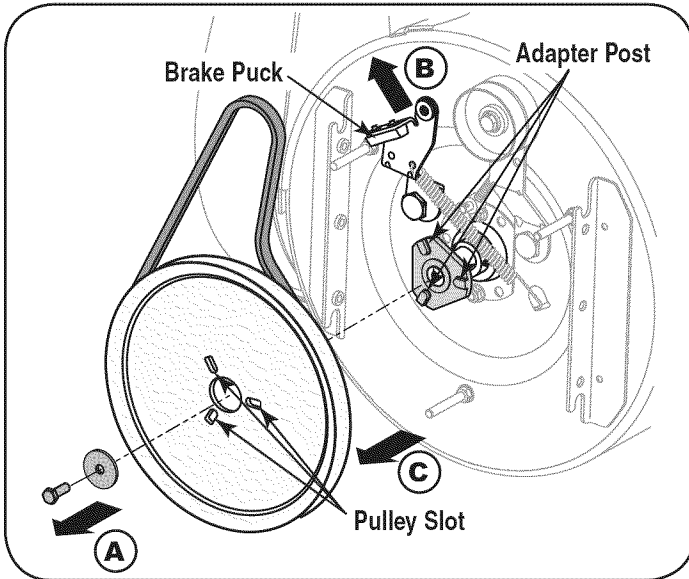

Figure 35
5. Block the impeller with a piece of wood to prevent it from spinning and use a 1/2" wrench to remove the hex screw and flat washer from the center of the pulley on the auger housing. See A in Figure 35.
6. Lift the brake bracket assembly out of the pulley groove (B in Figure 35) and slide the pulley assembly off the posts of the auger pulley adapter (C) to remove the old belt.
- Turn the pulley as necessary to align its three slots approximately with the posts of the pulley adapter, then pivot the brake bracket assembly away from the pulley groove. While aligning the pulley slots and adapter posts, push the auger pulley fully onto the adapter. Refer to Figure 35. Ensure the brake puck of the brake bracket assembly aligns and is fully seated in the pulley groove.
**NOTE:** If the pulley adapter was removed with the pulley, align the splines of the pulley adapter and auger input shaft, and push the pulley and adapter onto the input shaft. Refer to Figure 35.